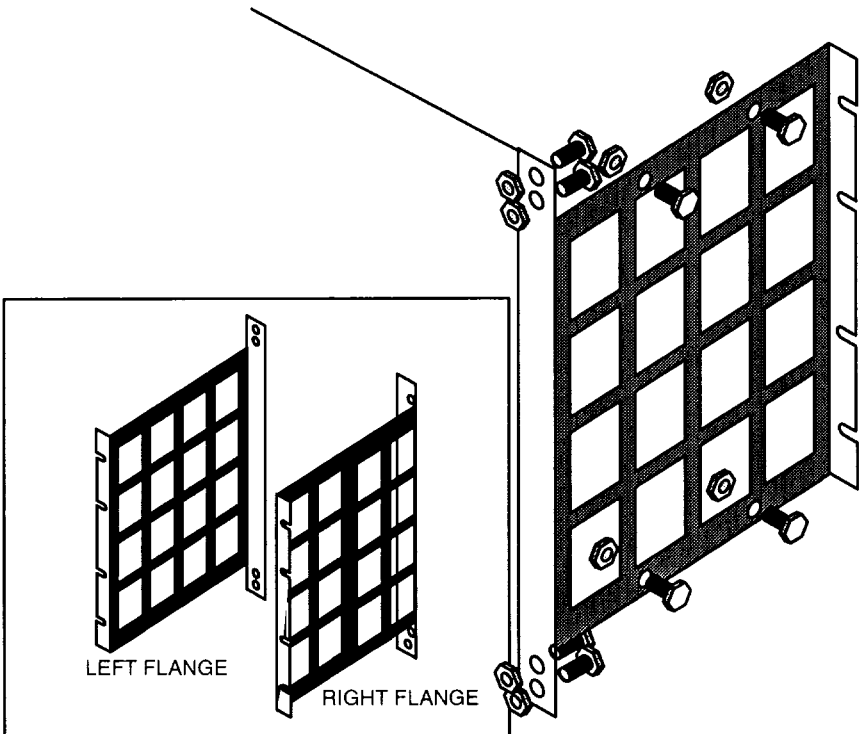

Figure 23 Attaching Rack Mounting Flange to Housing
- Step 1** At Drop 2, using #8–32 mounting hardware shown in Figure 23, replace the primary housing's two end plates with rack mounting flanges.